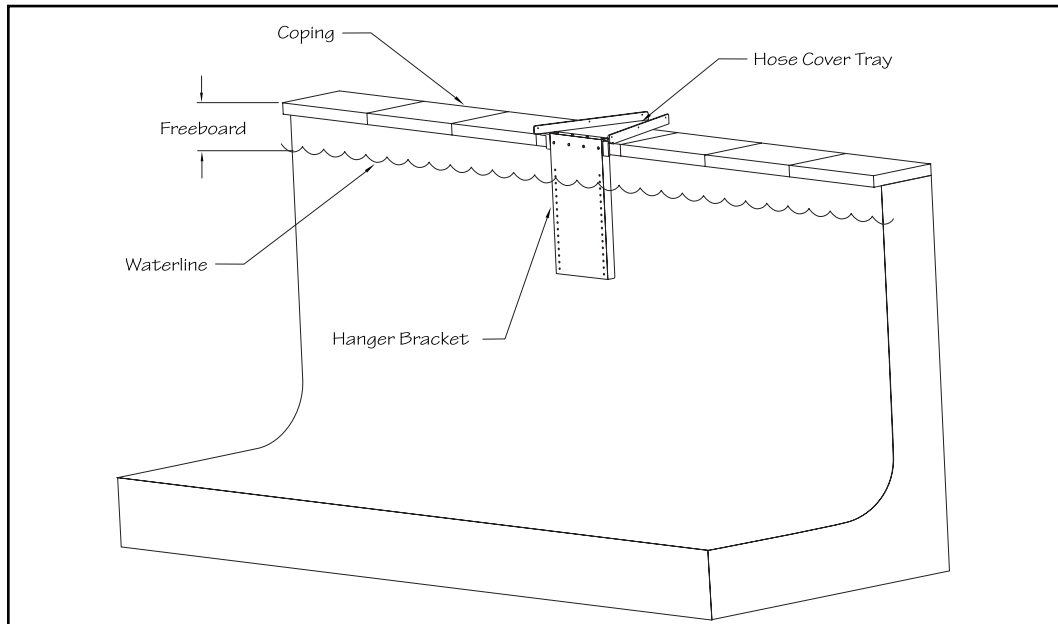

Fig. 9.1
9.1 Loosely secure the hanger bracket to the hose cover tray with one of the provided 1/2" (12,7mm) stainless steel screws. Measure down from the top of the hanger bracket to the water line (this measurement is called freeboard). Once the measurement has been taken, remove the hanger bracket from the tray (Fig 9.1).